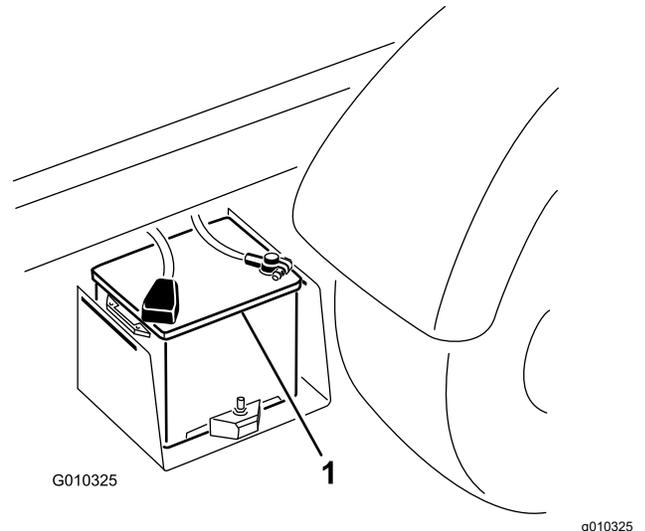

Figure 51
2. Connect a jumper cable between the positive posts of the 2 batteries (Figure 51).